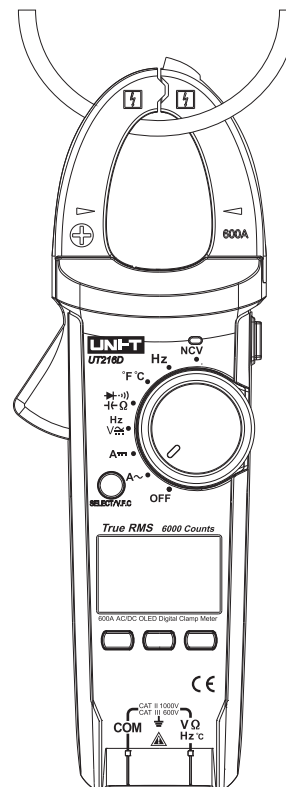

Fig. 3
2.Measurement of DC current (shown as Fig. 3)